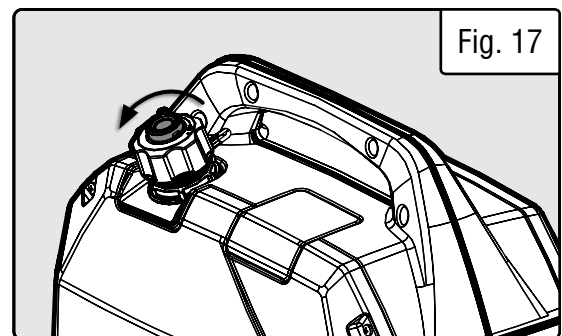

Fig. 17
4. Close the vacuum relief valve (Fig. 17) on the top of the fuel cap by rotating it counterclockwise to the OFF position.